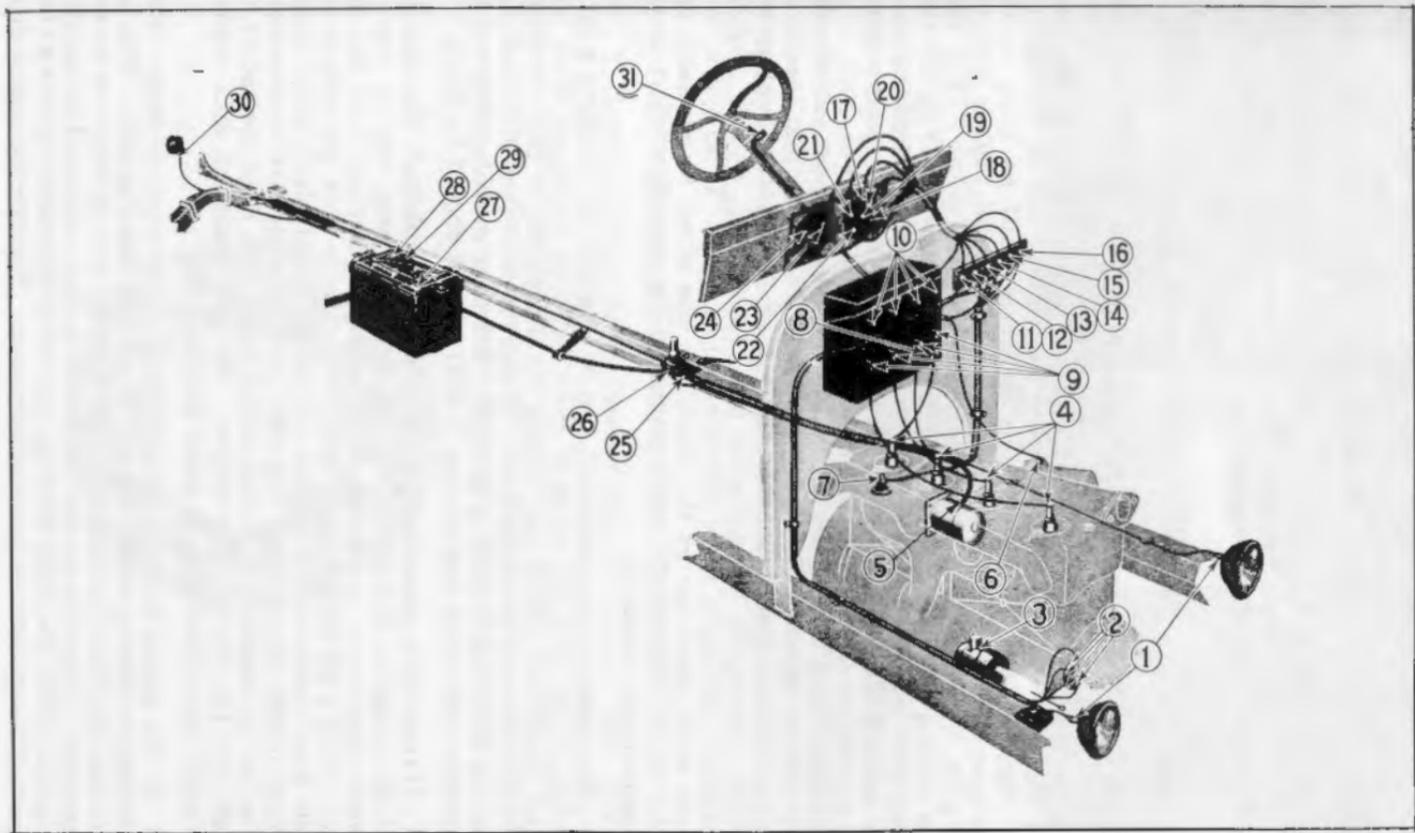

Fig. 498
- 988 If no spark occurs when the starting switch terminals are shorted as described in Par. 983, the trouble is probably due to loose or dirty connections. Examine connections at starting motor terminal, point 5 (Fig. 498), starting switch terminals, points 25 and 26, positive and negative posts on battery, points 27 and 28 and battery ground connection on frame, point 29. If connections are clean and tight, the trouble lies in the starting motor, and it will be necessary to remove the starting motor and check for shorts and grounds or shaft bushing binding on armature shaft as described in Chapter XXXVII.
- 990 If the trouble indicates itself as lying in the ignition system, remove and inspect commutator case and spring as described in Par. 1003. If the commutator is O. K., examine magneto and battery wire terminals on terminal block, points 12 and 13 (Fig. 498); ignition switch wire terminal at point 8, commutator terminals on coil box, point 10, also the two soldered connections on terminal to bus bar
- 991 If the car is not equipped with a starter and fails to start when turned over rapidly with the hand crank and with the switch key turned to point marked "MAG," check the spark plugs as described in Par. 989 to determine whether the trouble lies in the ignition or fuel system. If the trouble indicates itself as lying in the ignition system, inspect the magneto contact post. While someone cranks the car, short the magneto contact post, point 7 (Fig. 498) by placing the ends of a pair of pliers, or a screw driver on the contact post and transmission cover and moving the end of the pliers or screw driver back and forth on the cover to make a good contact. If a good live spark occurs the magneto is O. K. (See Par. 999). If no spark or a very weak spark occurs, remove magneto post and examine contact spring to see that it is not weak, or broken, or that there is no dirt or foreign matter between the contact and contact post spring. After cleaning the contact point and contact post, replace magneto terminal and again short the terminal to cover. If no spark, or a very weak spark occurs the trouble is due either to excessive end play in the crankshaft, weak magnets or a ground or short in the magneto coil assembly.
- 993 If there is no appreciable end play in the crankshaft, the strength of the magneto should next be checked. An easy way to prove a weak magneto on a car not equipped with a battery is to run one wire from a six volt storage battery or three or four dry cells to the left hand terminal connection on the terminal block when facing front of dash (See point 11 Fig. 498), and the other wire to some metal part of the engine. Turn the switch key to the right instead of the left and try starting the engine. On cars equipped with starters simply turn switch key to point marked "Bat".
- 999 If a spark occurs after shorting magneto contact post, as described in Par. 991, remove the commutator and inspect commutator case and spring as described in Par. 1003. If commutator is O. K., examine all connections on coil box, terminal block, and back of switch as outlined in Par. 990, and see that they are clean and tight. If the trouble is not due to a loose connection at these points, place the ends of a pair of pliers on the magneto and coil terminals on back of switch, points 19 and 20 (Fig. 498), while some one cranks the car. If the car starts, the trouble lies in the ignition switch and a new switch should be installed.